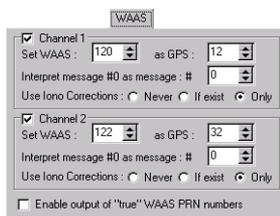

Figure 3-27. WAAS Tab
- The third tab, as its name implies, deals with the WAAS/EGNOS satellites (Figure 3-27).